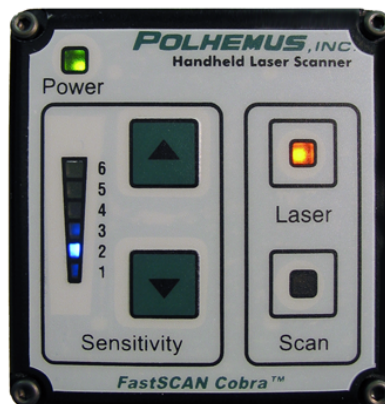

Figure 9: The Wand control panel with the power and Laser lights illuminated.
- illuminates the **Laser** LED (shown in Figure 9).